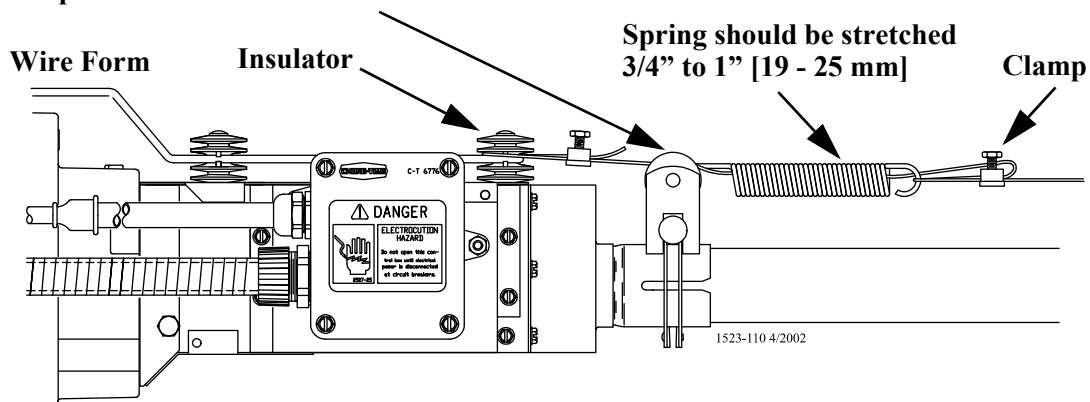

Figure 52. Cable hook up at Power Unit.
9. At the control unit, after clamping the cable to the spring, cut the cable about 8" to 10" (200 to 250 mm) longer than necessary. Feed the end of the cable through the center of the spring, around the first insulator on the control unit, and clamp the cable using the cable clamp supplied with the control unit. See **Figure 52**.
10. Install the wire form on the control unit insulators. Be sure the guard snaps into the retainers molded into the insulators. See **Figure 52**. At the control unit, after clamping the cable to the spring, cut the cable about 8" to 10" (200 to 250 mm) longer than necessary. Feed the end of the cable through the center of the spring, around the first insulator on the control unit, and clamp the cable using the cable clamp supplied with the control unit. See **Figure 52**.